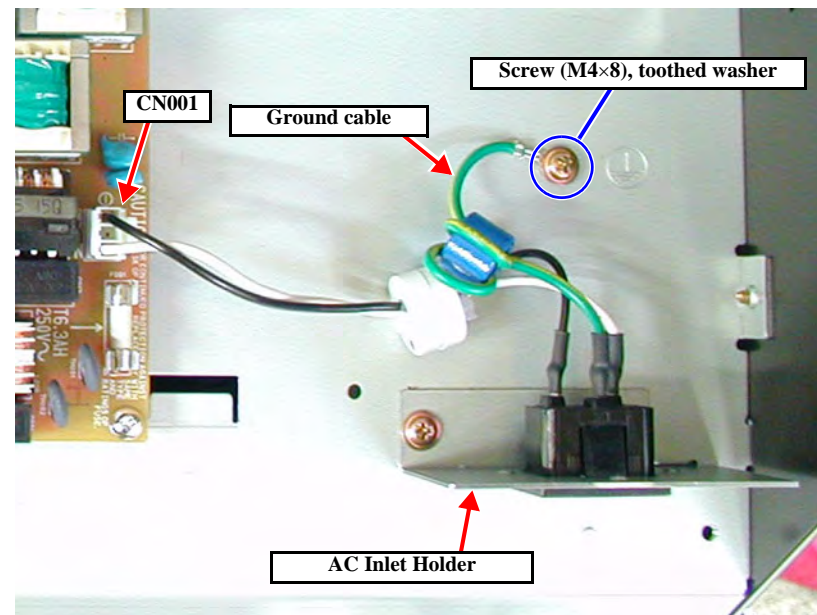

Figure 4-81. Removing the AC Inlet Holder
2. Disconnect CN001 from the Power supply Board. (See Figure 4-81)